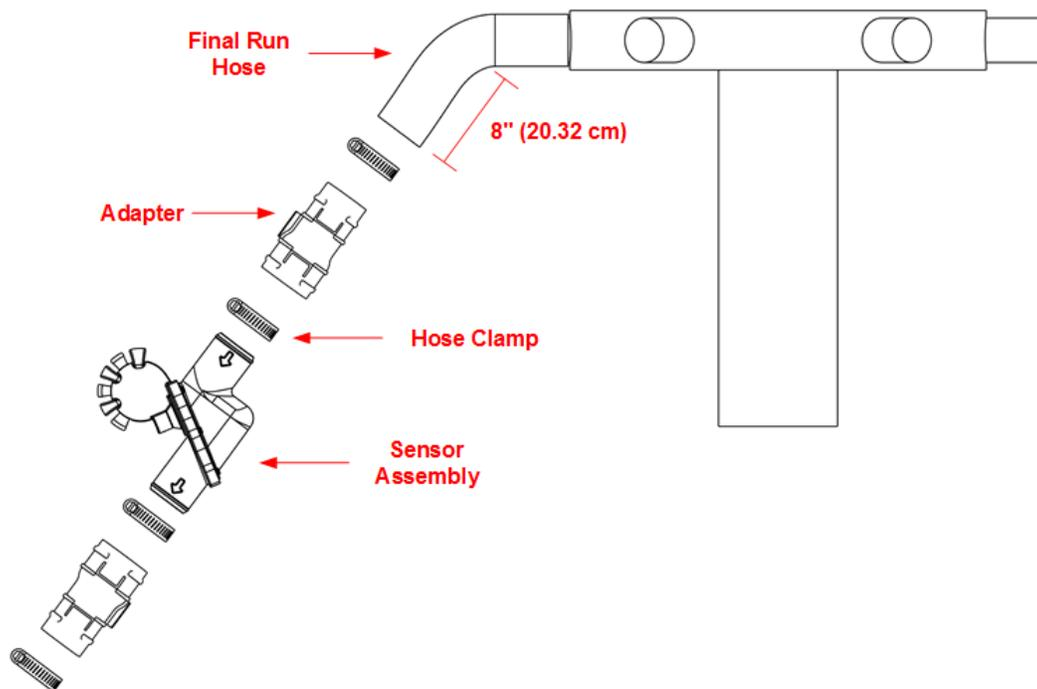

Figure 10: 1.5-inch flow sensors installed on a manifold
2. Place adapters on the sensor as shown in Figure 10 and secure using hose clamps.